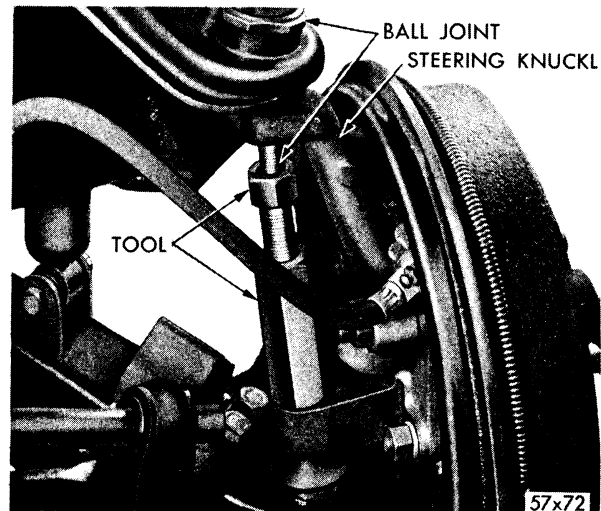

Fig. 32—Removing Upper Ball Joint—
16. SERVICING THE BALL JOINTS—(UPPER AND LOWER) (FIGS. 32 and 33)
Upper and lower ball joints are not interchangeable. The upper ball joint is a preloaded joint and can not be used in the lower control arm. Remove wheel and tire assembly. With support under the lower control arm, remove upper and lower ball joint stud nuts. Install Tool C-3561 (Fig. 32). Apply load to studs and rap knuckles at ball joint boss sharply with a hammer to loosen stud. To avoid damaging stud do not attempt to hammer stud out of knuckle.